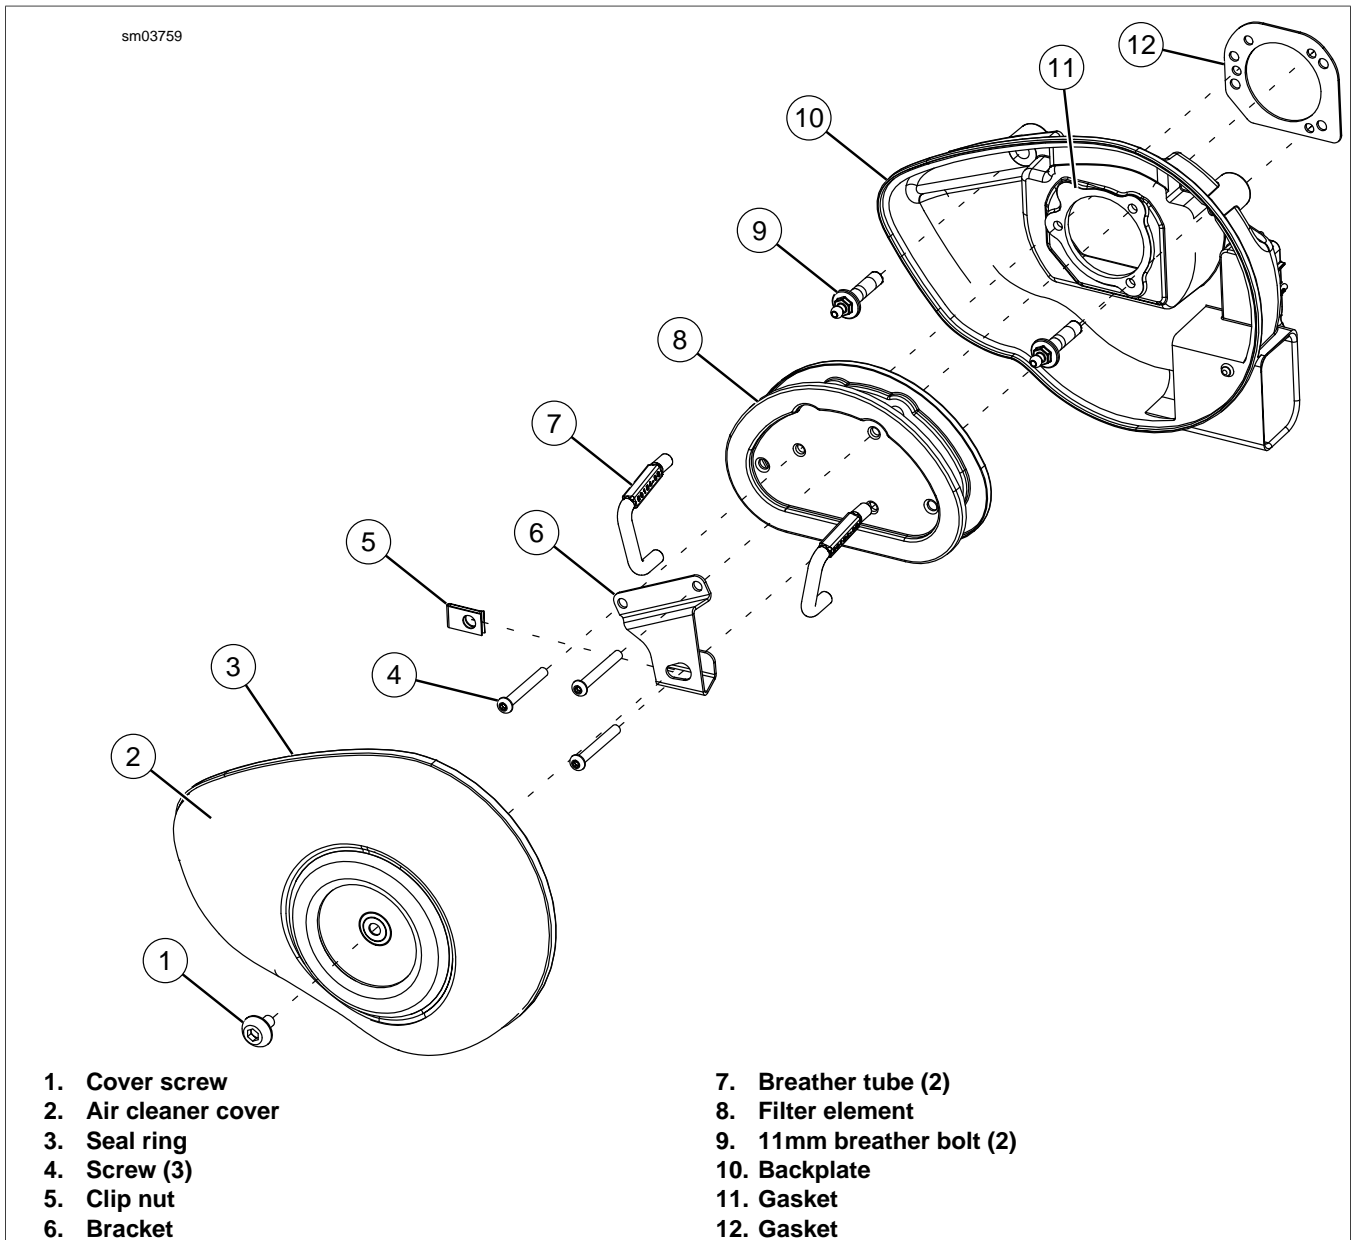

Figure 4-1. Air Cleaner Assembly
1. See Figure 4-1. Remove screw (1) and air cleaner cover (2).
2. Gently pull both rubber breather tubes (7) from the element.
3. Slide clip-nut (5) to the left to allow access to third screw. Remove three screws (4), bracket (6) and filter element (8).
6. Inspect seal ring (3) for cracks or tears. Verify that it seals tightly to backplate. Replace as required.
7. Alternately back out both breather bolts (9) (metric) a few turns a time while pulling backplate (10) away from induction module.
8. Continue previous step until breather bolts are clear. Remove backplate (10), gasket (11) and gasket (12). Discard gaskets.
9. Wipe inside of air cleaner cover (2) and backplate (10) with damp cloth to remove dust.
- See Figure 4-1. Position **new** gasket (12) on backplate. Insert two breather bolts (9) (metric) into backplate. Thread bolts loosely into each cylinder head. Final tighten bolts to 22-24 ft-lbs (29.8-32.5 Nm).
- Position **new** gasket (11) on filter element (8). Make sure gasket holes are aligned with screw holes.
- Attach breather tubes (7) to breather screws on backplate.
- Install air filter element (8) and bracket (6) using three screws (4). Tighten to 40-60 **in-lbs** (4.5-6.8 Nm). Slide clip-nut (5) to the right and into place.
- Insert breather tubes (7) into holes in filter element.
- Install air filter cover (2).
- Apply a drop of LOCTITE THREADLOCKER 243 (blue) to threads of air cleaner cover screw (1).